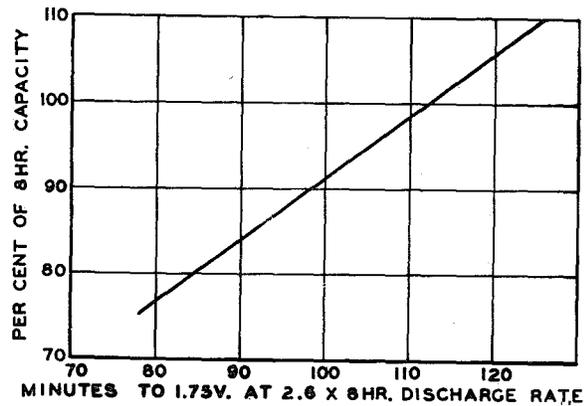
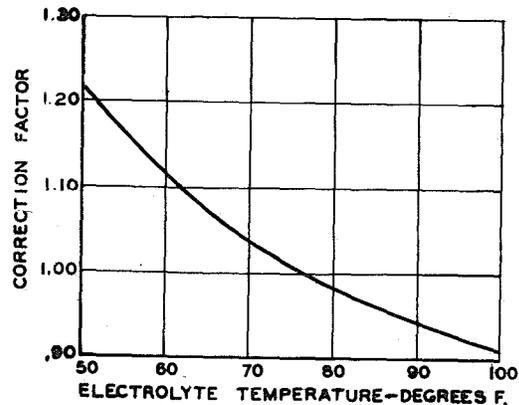

Fig. 2 - Approximate Capacity at the 8-hour Rate Found by Measuring Time in Minutes to Discharge to 1.75 Volts at 2.6 Times the 8-hour Rate.
Fig. 3 - Capacity Correction to 77F
1.05 The test consists of discharging at 2.6 times the 8-hour rate of the cell and recording the time it takes for the cell voltage to reach 1.75 volts. By reference to Fig. 2, this time can be converted to 8-hour capacity which in turn can be corrected in accordance with Fig. 3 for temperature. Besides being quicker than a full capacity discharge test at the 8-hour rate, this test has the great advantage that an appreciable part of the 8-hour capacity remains in the cell at the end of the test.
3.08 From Fig. 2 and time of high rate discharge determine the approximate 8-hour capacity of the cell for recorded electrolyte temperature. See 3.04.
3.09 From Fig. 3 determine the approximate 8-hour capacity for an electrolyte temperature of 77F.
Assume electrolyte temperature of 60F at start of discharge and 100 minutes of discharge. From Fig. 2, the 8-hour capacity with 100-minute discharge is approximately 91 per cent at the discharge
temperature of 60F, and from Fig. 3, the approximate 8-hour capacity corrected to 77F would be 1.115 times 91 or 101 per cent.